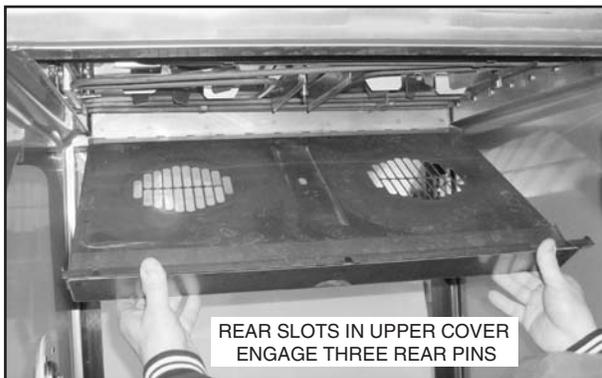
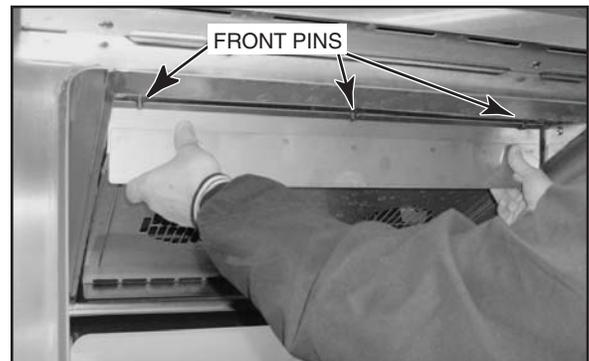

Figure 43
Figure 44
8. Reinstall the upper cover. Hold the front of the upper cover with both hands. Guide the rear of the upper cover to the three pins at the rear; push to the rear so the three pins are engaged with the slots on the upper cover (Figure 43). Lift up the front of the upper cover while pressing both thumbs in so that you engage the slots on the front of the upper cover with the three front pins (Figure 44). Make sure all six pins are properly engaged with the slots on the upper cover.